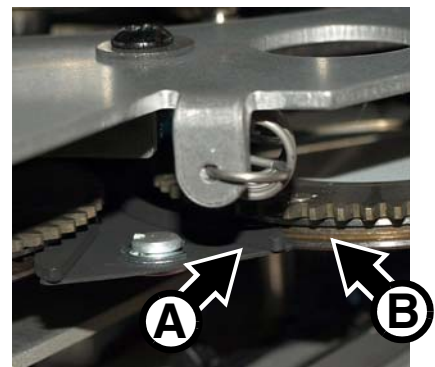

Figure 24: Gobo clip
13. See Figure 24. Push the goboholder back into its clip so that the jaws **A** of the clip engage in the groove **B** around the goboholder and the magnet lines up with your reference point. Rotate the goboholder with a finger to check that it is correctly held in the clip and that the goboholder teeth mesh correctly in the teeth of the actuation cog in the center of the gobo wheel.